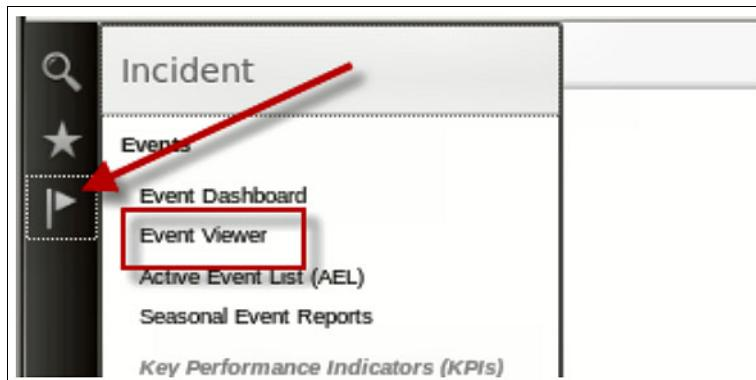

Figure 7-11 Selecting the Event Viewer option
2. Click the flag icon and select **Event Viewer**, as shown in Figure 7-11.